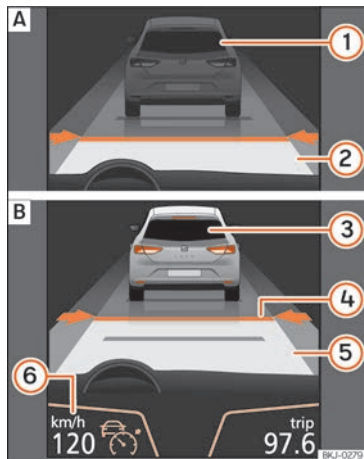
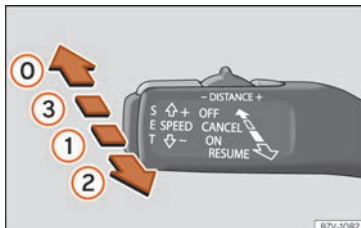
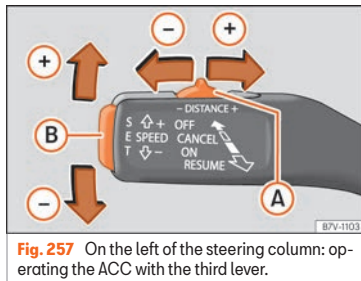
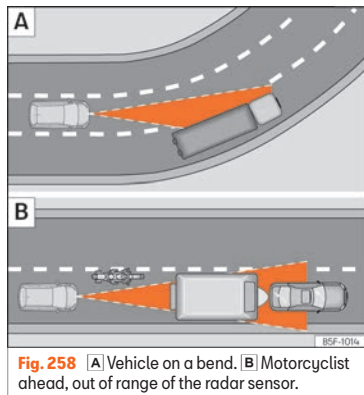

Fig. 255 On the instrument panel display: **A** ACC inactive (Standby). **B** ACC active.
Fig. 256 On the left of the steering column: operating the ACC with the third lever.
Fig. 257 On the left of the steering column: operating the ACC with the third lever.
Fig. 258 **A** Vehicle on a bend. **B** Motorcyclist ahead, out of range of the radar sensor.
Indications on the display » » **Fig. 255:**
When the ACC is connected, the green control lamp (ACC) will light up on the instrument panel, and the programmed speed and ACC status will be displayed » **Fig. 255**.
- To activate the ACC, move the third lever to position **ON** » **Fig. 256** (1). At this time, the ACC is not active and there is no programmed speed.
- Next, press button **SET** » **Fig. 257** (B) or move the lever to position **RESUME** » **Fig. 256** (2). At this moment the ACC is activated and the current speed and distance are programmed. The picture in the box will change to Active mode » **Fig. 255** (B).
- To set the speed, move the third lever up (+) or down (-) to the desired speed » **Fig. 255** (6). The speed adjustment is made at 10 km/h [6 mph] intervals.
• If you wish to increase speed by intervals of 1 km/h [0.6 mph], move the lever to position **RESUME** »» Fig. 256 (2), or to decrease it press button **SET** »» Fig. 257 (B).
• To increase or reduce the distance, press button (A) to the right or left »» Fig. 257.
The instrument panel display modifies the selected distance »» Fig. 255 (4). There are 5 distance levels to choose from. SEAT recommends level 3. The set distance can be changed when the vehicle is stopped or while driving »» ⚠.
• To disconnect the ACC move the lever to position **OFF** (fixed) »» Fig. 256 (C). An **ACC deactivated** message appears and the function is totally deactivated.
System acceleration can be interrupted at any time by pressing the brake or moving the third lever to position **CANCEL** » » » Fig. 256
When entering or leaving some curves, the radar sensor may cease to sense the vehicle driving in front of it, or react to a vehicle in the adjacent lane » » » Fig. 258 [A]. The vehicle may brake unnecessarily or stop reacting to the vehicle in front. In this case, the driver has to intervene by accelerating or interrupting braking by applying the brake or pushing the third lever to position **CANCEL** » » » Fig. 256
» » » Fig. 258 [B]. In these cases, you should brake as necessary.